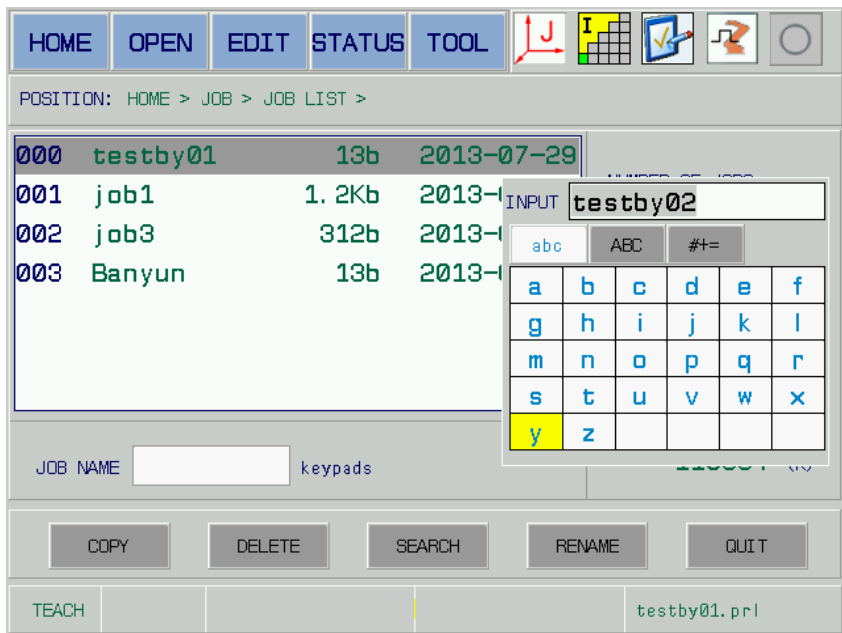

Fig. 5-8
3. Select the program to be copied by direction buttons in the {Job list} page, for example: copy “testby01.pr1” to “testby02.pr1”. Shift the cursor to the input frame by [TAB], then enter the soft keyboard input page by [SELECT], and then complete the file name input “testby02.pr1” based upon the steps of the file name input in the “Section 5.1.1 New Program”; refer to the Fig. 5-8.